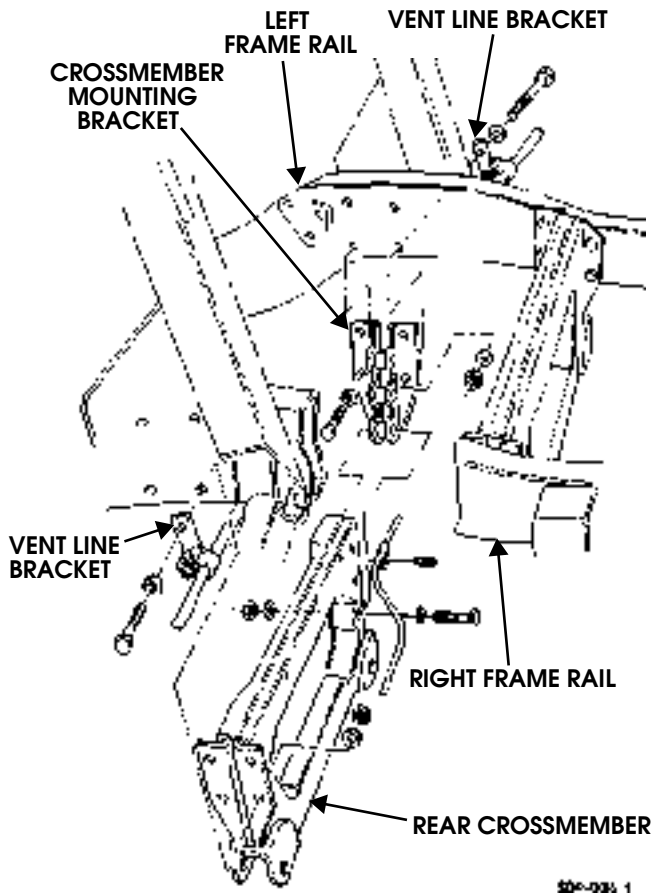

Figure 9-147: Rear Crossmember Replacement
9. Remove three bolts and clamps from two vent line brackets and crossmember (Figure 9-147).
1. Install left and right rear crossmember mounting brackets on rear crossmember (Figure 9-147).